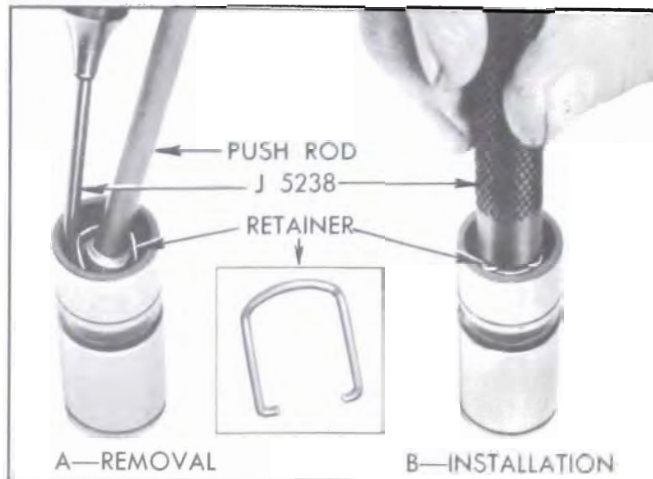

Figure 2-39—Removing and Installing Plunger Retainer
1. Disassemble each valve lifter by using a push rod to hold down the push rod seat while removing the plunger retainer from the lifter body, using Retainer Remover J-5238. See Figure 2-39, View A. Remove push rod seat and plunger from lifter body.
3. Rinse push rod seat and plunger retainer, place these parts in end of body and depress with handle of Remover J-5238 until retainer engages groove in body. See Figure 2-39, view B.